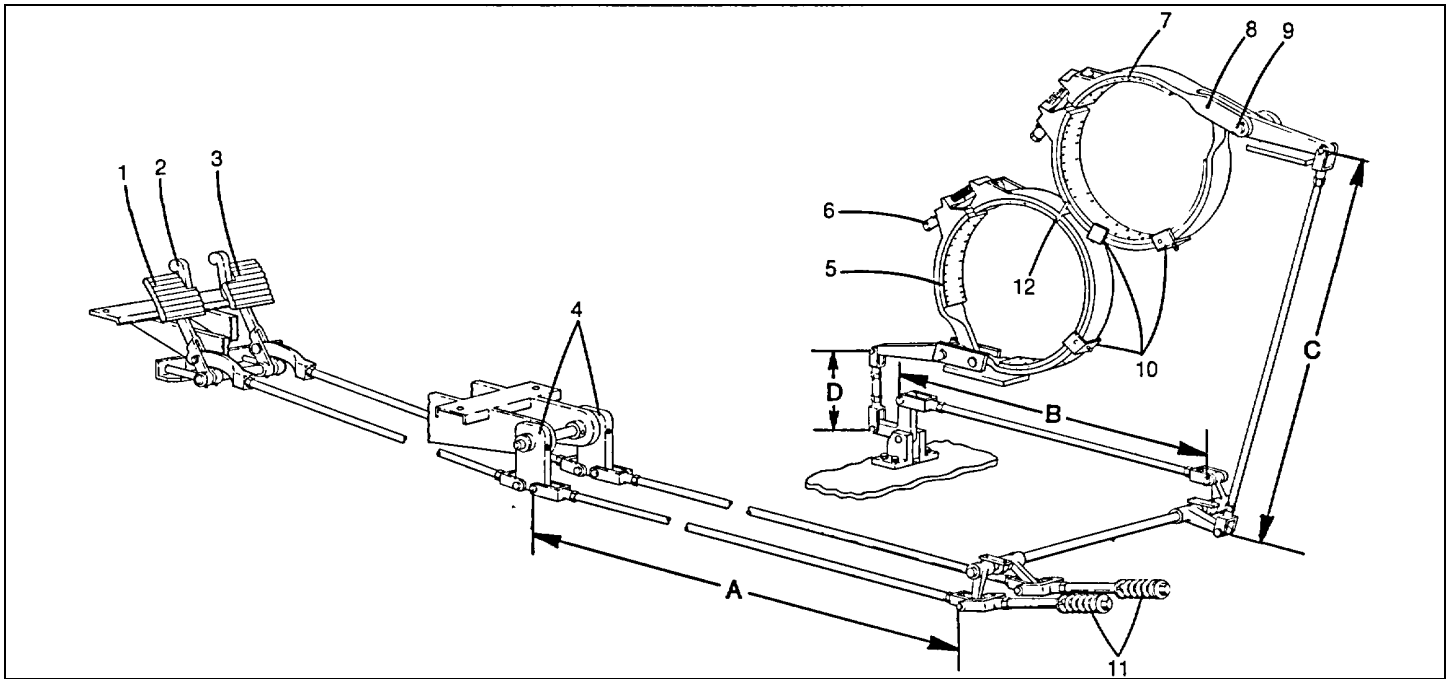

Fig. 4-7
4-13 Front And Rear Drum Brake Adjustment(Fig. 4-7)
- (c) brake band drag when powering down a load. The brake band should be centered with the brake drum. The middle area of each band is centered with the drum by means of a centering bracket (item 12 in Fig. 4-7). The rest of each band is centered with the brake drum by shimming between the dead end lug, and the dead end mounting bracket on the frame. The following shims are available for use at this point:
- (1) 1D14410 Ga. (3.41mm)
- (2) 1D14522 Ga. (.759mm)
- (3) 1J218.....16 Ga. (1.51mm)